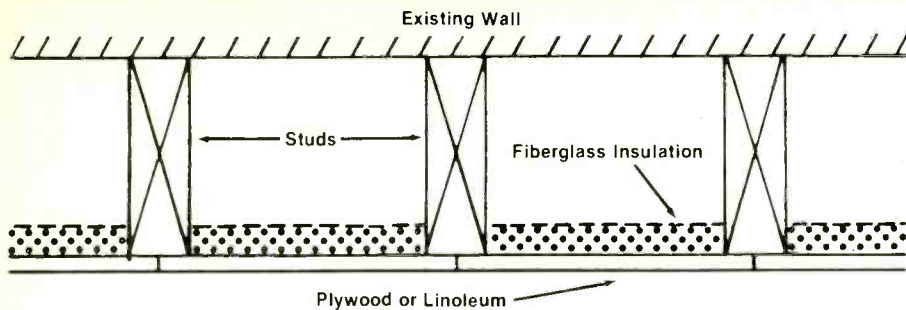

Fig. 3. Example of bass-trap construction.
7. For bass trapping, nail 3/8" thick plywood panels to 2" x 6" and 2" x 4" studs that are spaced 4 feet apart on the existing wall. Put fiber glass insulation in the air space behind the panel, as shown in *Figure 3*. Or, use linoleum on 2" x 4" and 1" x 1" studs. Cover about half the wall area in this manner.